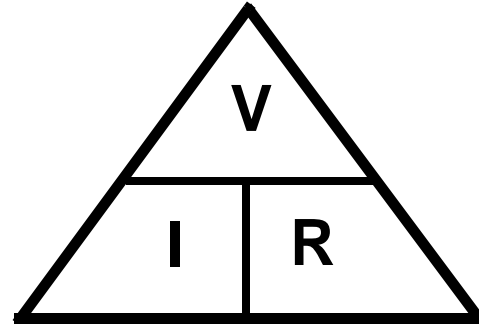

Figure 7.26
- Those who were traumatized by algebra can represent Ohm's law as a triangle. When using the triangle, cover the value to be found, and the two values left exposed signify how to obtain that value. See Figure 7.26.